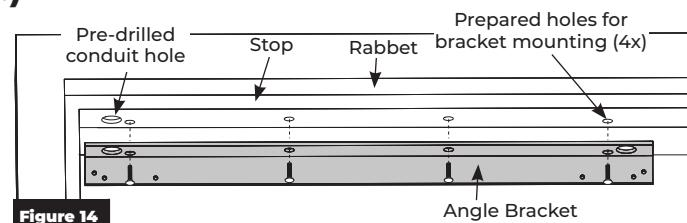

Figure 14
8. Fasten the 28PTPB angle bracket to the frame stop as shown with conduit run thru angle bracket, if required. (Figure 14)